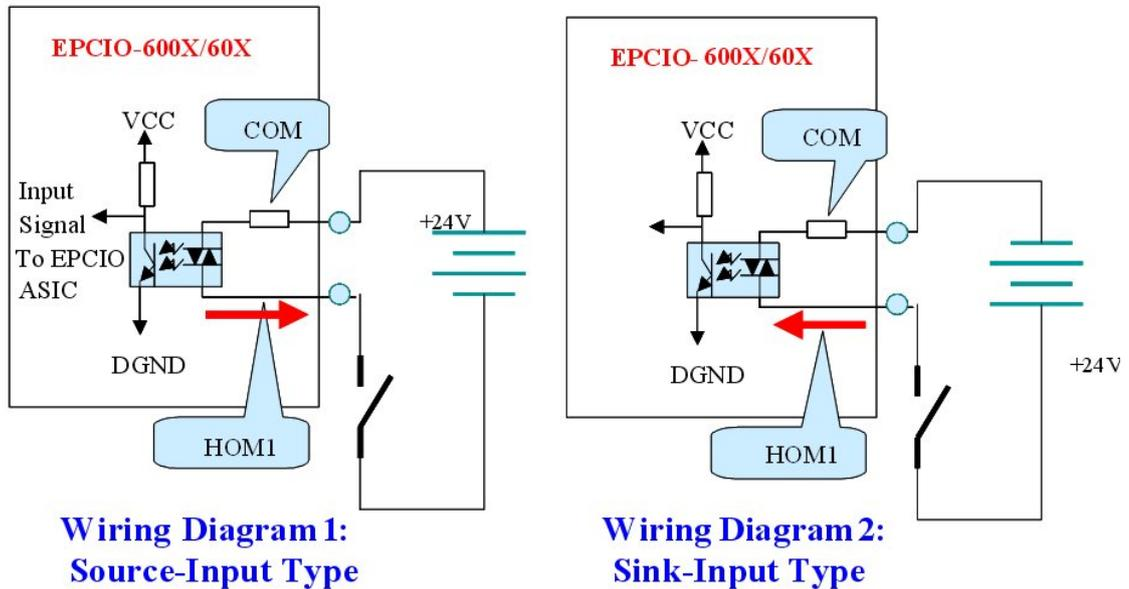

Fig. 3-9
- An example of HOME (HOM1) input type is shown in Fig. 3-9.
At the instant when the mechanical switch in Fig. 3-9 is turned from open to close, the switch has a bouncing phenomenon. At this time the reading value of the EPCIO will oscillate between 0 and 1. When at the end of bouncing, the switch conducts and the reading value becomes 0. On the other hand, at the instant when the mechanical switch is turned from closed to open, there is only a very little of the bouncing phenomenon.